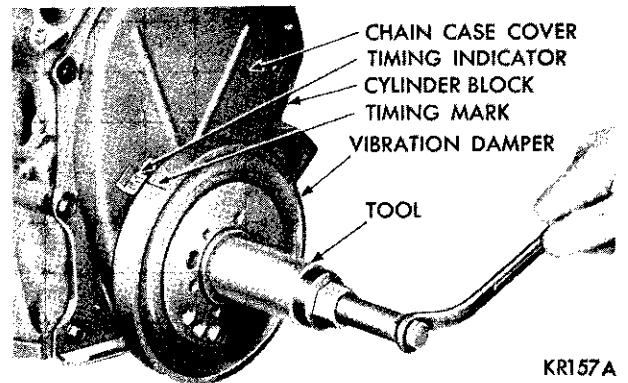

Fig. 28—Installing Vibration Damper Assembly
- (1) Be sure mating surfaces of chain case cover and cylinder block are clean and free from burrs.
- (2) Using a new gasket slide chain case cover over locating dowels. Install and tighten bolts 15 foot-pounds.
- (3) Lubricate seal lip with Lubriplate, place damper hub slot on key in crankshaft, and slide vibration damper on crankshaft.
- (4) Place installing tool, part of Tool C-3688 in position and press damper on the crankshaft (Fig. 28).
- (5) Install damper retainer washer and bolt. Tighten to 135 foot-pounds.
- (6) Slide belt pulley over shaft and attach with bolts and lockwashers. Tighten bolts to 200 inch-pounds.